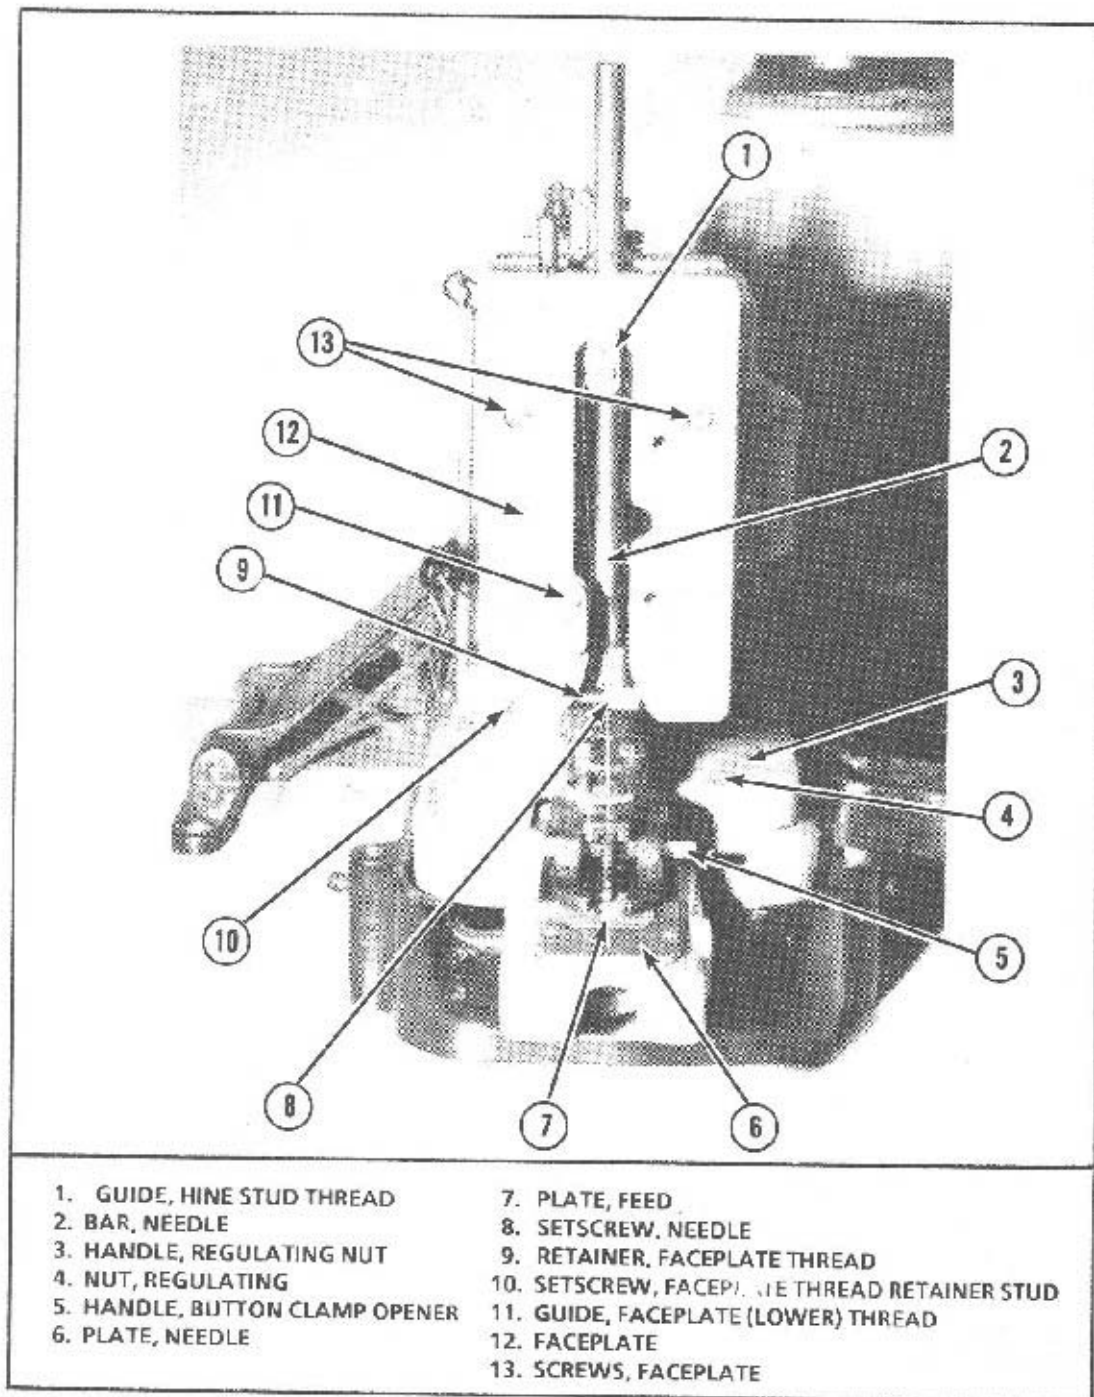

Figure 3-111
7. Record all malfunctions on DA Form 2404 that cannot be corrected. (See Figure 3-111 and 3-112)